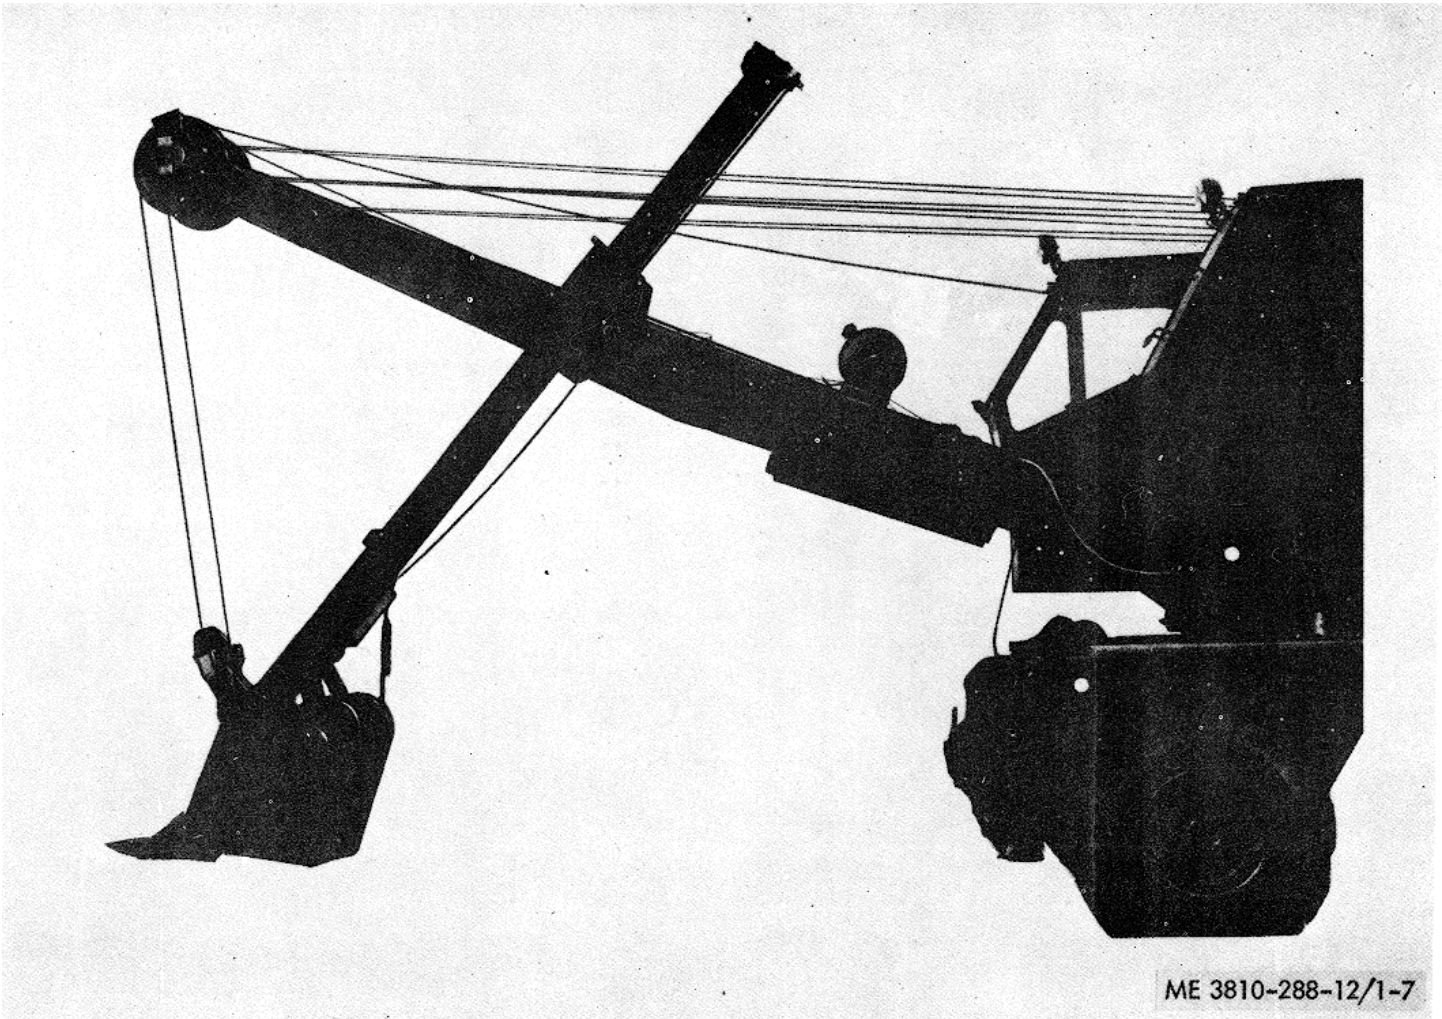

Figure 1-7. Shovel attachment.
a. *General.* The Harnischfeger Model M320T truck crane is designed for universal operation, and may be converted for use as a crane (fig. 1-1 and 1-2), clamshell (fig. 13), dragline (fig. 1-4), piledriver (fig. 1-5), backhoe (fig. 1-6), or shovel (fig. 1-7). The frontend attachments are described, and detailed instructions for the operation of each attachment are given Chapter 2 of this manual. The military load class is E-29.
f. Shovel attachment. The shovel attachment (fig. 1-7) is designed to work above ground level by lifting the dipper upward and outward, and is used for digging into the side of a hill or bank.